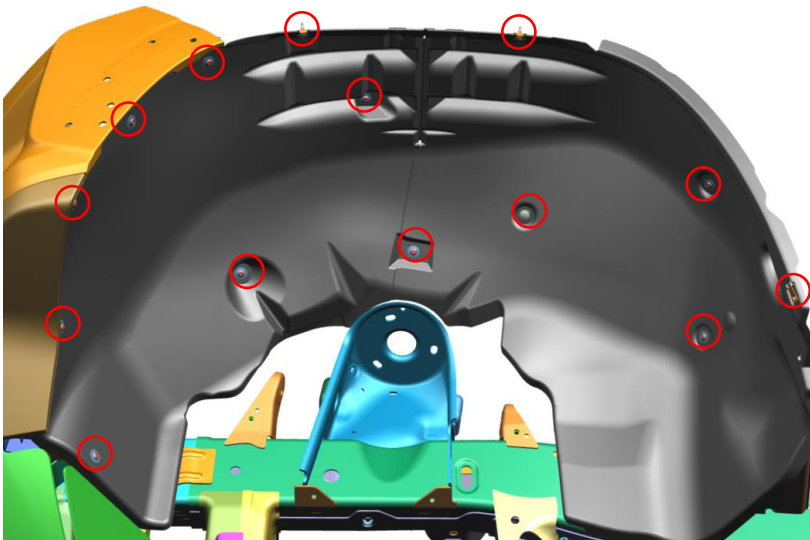

Figure 2 - Driver Side of Vehicle
- a. Remove rest [9] M4 bolts (T15 & M7 Socket) per side from wheel liner and SAVE. – Fig. 2